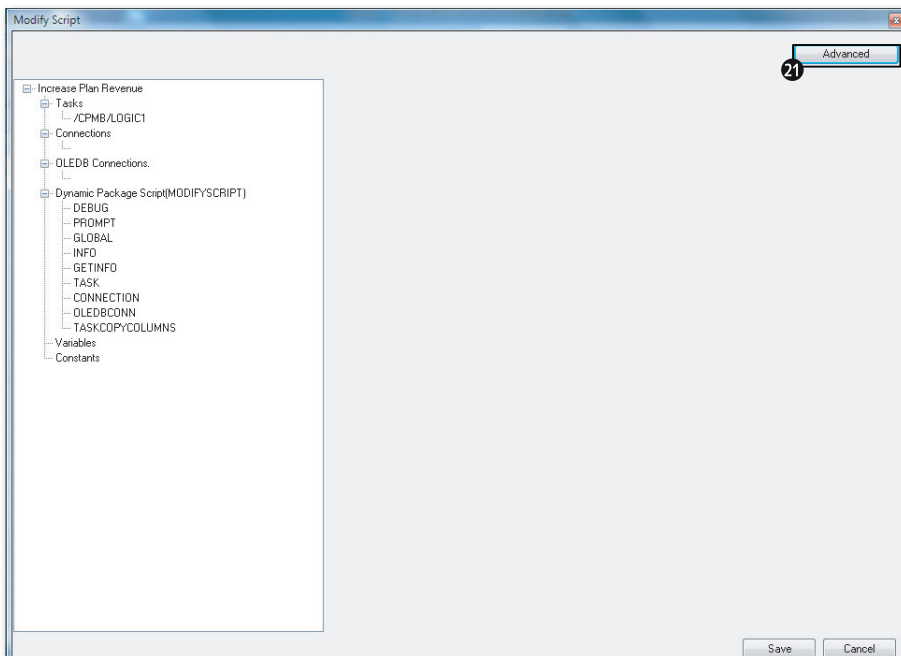

Figure 6.13 Creating Logic Script to Revalue Plan Data—Part J
- The MODIFY SCRIPT dialog box displays. Click on ADVANCED to specify the package settings (Figure 6.13, 21).